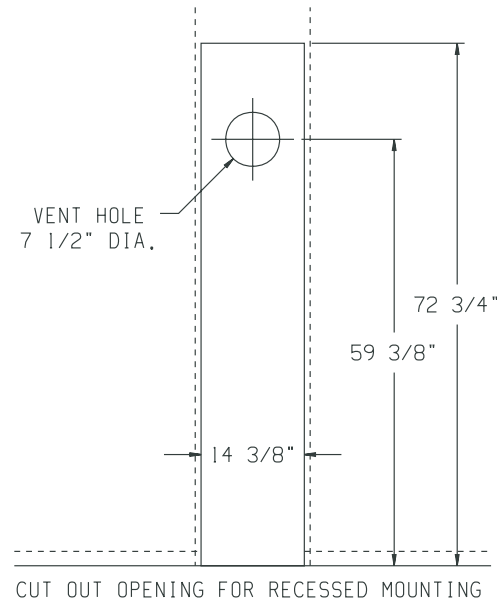
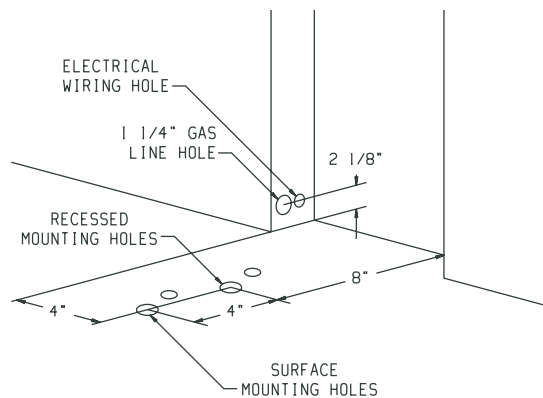

Figure 5
Figure 7
The furnace is to be located on an outside wall. Locate wall studs so that wall opening will be located between wall studs. The furnace is 14 1/8" (358mm) in width and can be recessed between standard 16" (406mm) on center wall stud. The wall opening required as shown in Figure 5 is a diameter of 7 1/2" (191mm).
A template is provided in furnace carton for positioning furnace on the wall. Also, refer to Figure 5 and Figure 7 for positioning the furnace on wall and for locating gas line connection.
Refer to Figure 5 for the location of the 7 1/2" (191mm) diameter wall opening for the furnace. After the wall opening has been located and cut, position flue outlet on furnace in center of wall opening. When attaching furnace to the wall, remove that portion of baseboard and molding on the wall which is behind the furnace. Attach furnace to wall, at the outer casing top, with (2) toggle bolts provided and to floor, at the out casing bottom, with (2) #10 x 1 1/2" (38mm) screws provided.